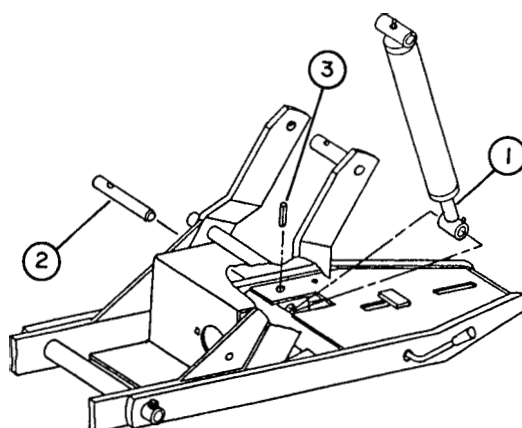

FIGURE 3
- g) Install cylinder rod end (fig.3, item 1) into the male quick hitch, making sure the grease fitting is on front side, and secure with a  $\frac{3}{4}$ " x  $4\frac{1}{2}$ " pin (fig.3, item 2) on the right hand side of the male quick hitch (make sure hole in pin is vertical). Lock the pin in place with a  $\frac{1}{4}$ " x 1" roll pin (fig.3, item 3) through the right hand welded tube in the male quick hitch.